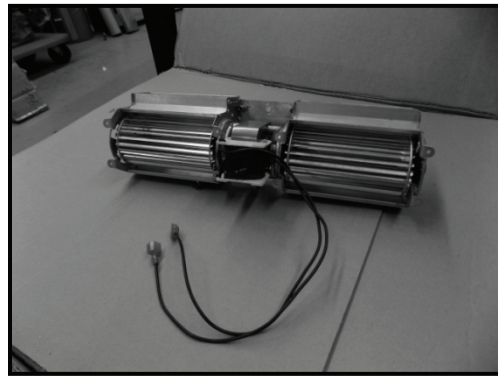

Figure 55
9. Disconnect the two power wires (Fig. 55) before fully extracting the fan from the opening.